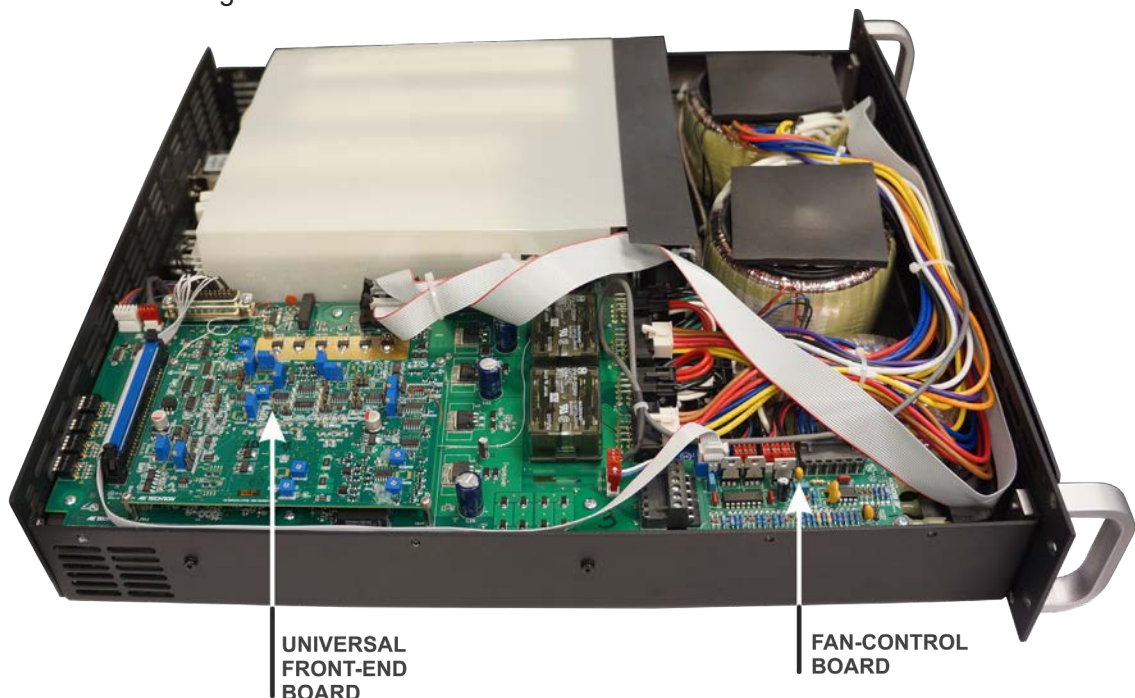

Figure 5.4 – UFEB and Fan-Control Board Locations
Refer to **Figure 5.4** for UFEB and Fan-Control board locations.
6. Locate the Fan-Control Board (see **Figure 5.4**).